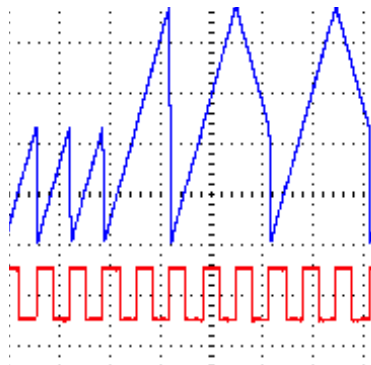

Figure 3b: QNT trigger with Cycle on and Div/Mult at /4
- Re-phasing with QNT:** If Div/Mult is set to $/n$ (dividing), and Cycle button is on, then hitting a trigger into QNT will re-start (re-phase) the envelope on the next incoming ping clock. This can be useful for multi-phase outputs (e.g. Quadrature patch). If you want the envelope to run freely without re-phasing, just use one or the other (but not both QNT and Cycle), or don't divide the ping. See *Figures 3b and 3c*.